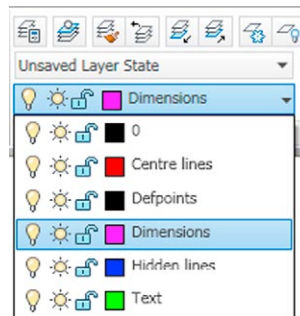

Fig. 6.3 The **Home/Layers** panel – making **Dimensions** layer current
2. Make the **Dimensions** layer current from the **Home/Layers** panel (Fig. 6.3).